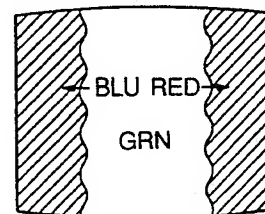

Fig.3-2
5. Move the deflection yoke backward, and adjust with the purity control so that green is in the center and blue and red are at the sides, evenly. (Fig.3-2)